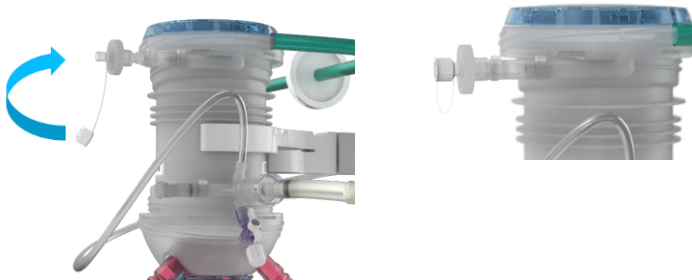

Figure 23 Place the cap on de-airing outlet
- Place the white cap on the oxygenator (Figure 23).